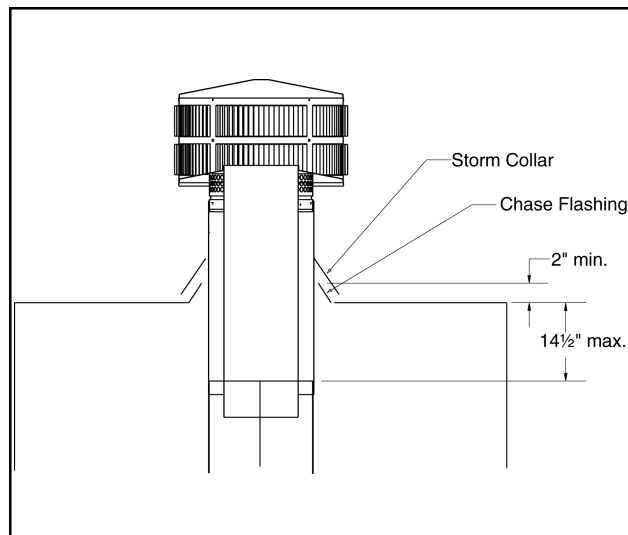

Figure 22 - Installing a TR342 Round Telescoping Termination Cap
- For installations utilizing a TR342 telescoping round termination cap, the uppermost chimney section must be below the top of the chase top, but not more than 14½" below the top of the chase top flashing collar. See Figure 22.